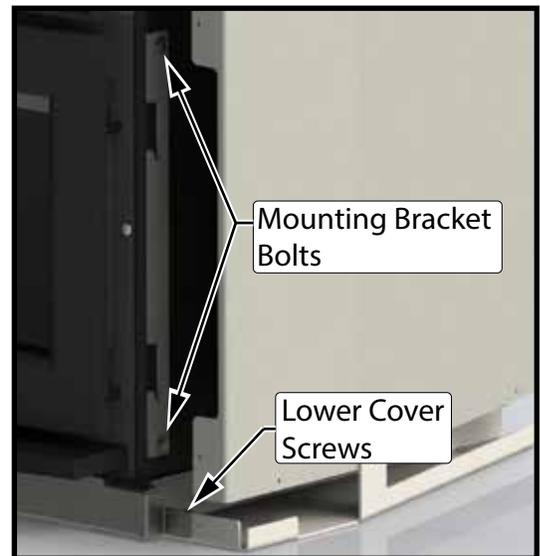

Figure 9: Blower Bolts and Screws.
3. Using a 3/8" wrench, back off the two bolts (on each side of the firebox) that secure the blower mounting bracket and spacer to the unit by 1/8"/4mm (Figure 9). Do not remove the bolts.